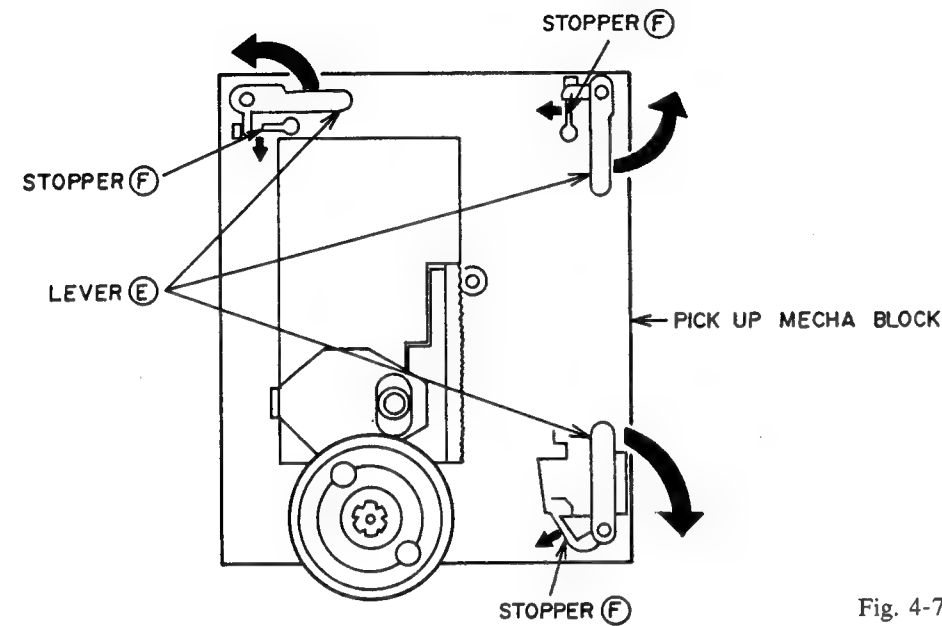

Fig. 4-7
- 1) Turn the LEVERS ⑤ while releasing the STOPPERS ⑥ as shown Fig.4-7.